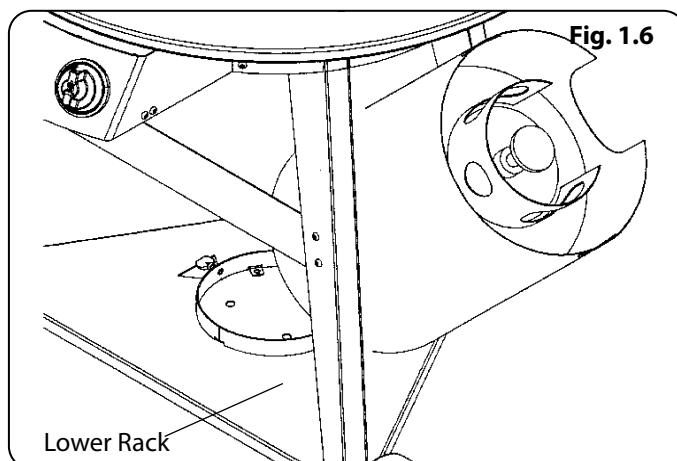

Fig. 1.6
2. Grasp handle of LP tank while simultaneously lifting the tank shield with the tank so the tank rests onto the lower rack (Fig. 1.6).